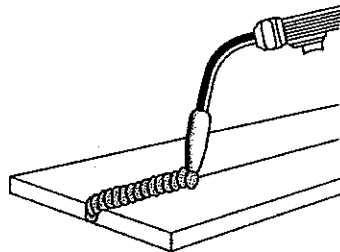

Figure 12. Flat Position Weld
1. The **FLAT POSITION** (Figure 12) is the easiest of the welding positions and is probably the one you have been using thus far. It is best if you can weld in the flat position if at all possible as good results are easier to achieve.